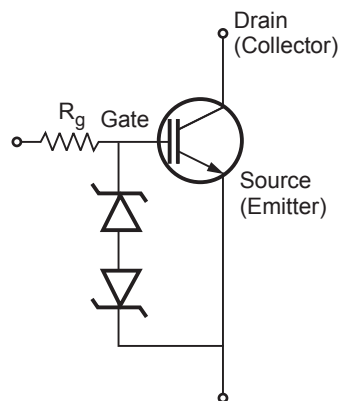

Fig. 1.6.11 Gate overvoltage protection
- Fig. 1.6.11 shows the circuit diagram of gate overvoltage protection. This circuit consists of two zener diode connected in series back to back.